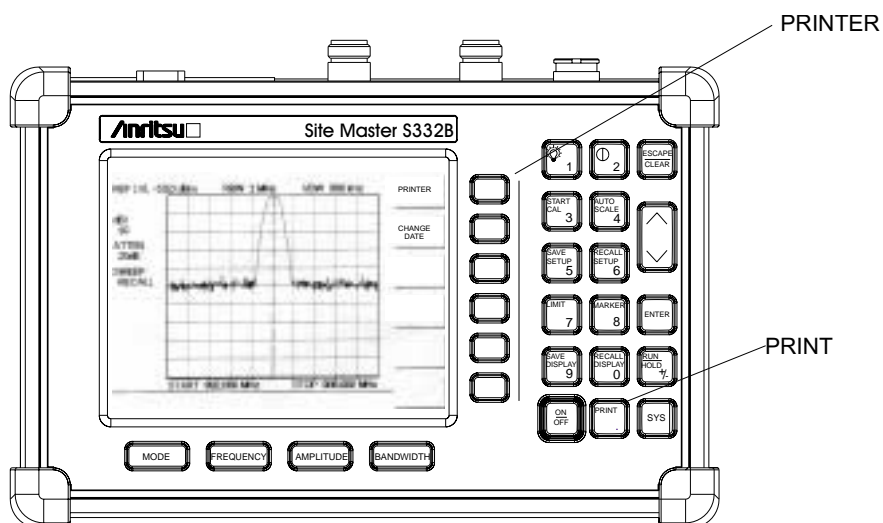

Figure 3-13. PRINTER Soft Key and PRINT Key
**Step 5.** Press the **PRINT** key. (Figure 3-13).